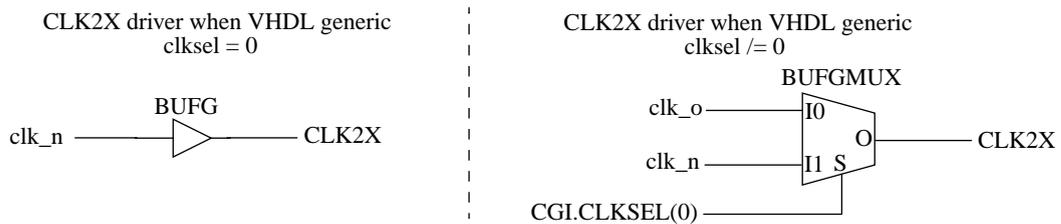
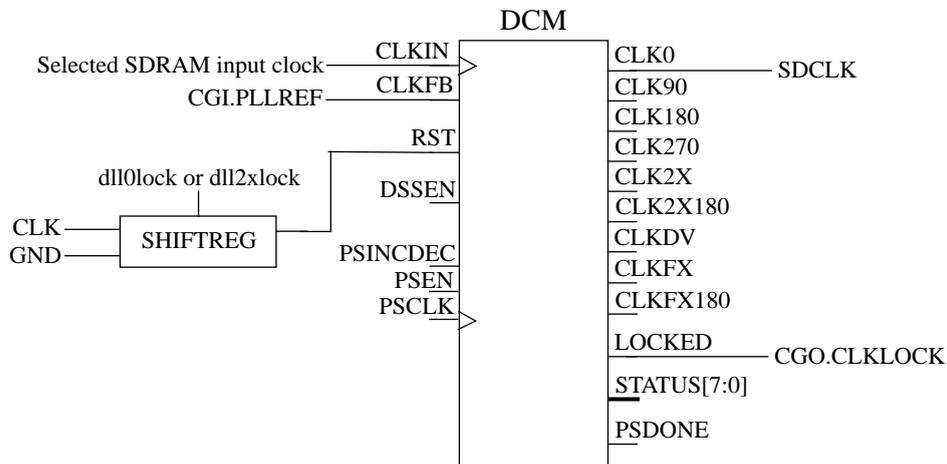

Figure 36. Spartan 3/e selection of CLK2X clock when VHDL generic *clk_{2xen}* is non-zero
Figure 39. Spartan 3/e generation of SDRAM clock
shift register connected to the CLK2X DCM’s RST input are set to ‘1’. When the dll0lock signal is asserted it will take four main clock cycles until the RST input is deasserted. Depending on the value of the *clk_{sel}* VHDL generic the core’s CLK2X output is either driven by a BUFG or a BUFGMUX. Figure 36 shows the two alternatives and how the CGI.CLKSEL(0) input is used to selected between the CLK0 and CLK2X output of the CLK2X DCM.
If the SDRAM clock is enabled, via the *sdramen* VHDL generic, and the clock generator is configured to use clock feedback the DCM shown in figure 39 is instantiated. This DCM has the same attributes as the CLK2X DCM. The input to the SDRAM DCM input clock is determined via the *clk2xen* VHDL generic. If the VHDL generic is set to 0 the input is the main CLK, if the generic is set to 1 the input is the *clk_p* out of the CLK2X DCM shown in figure 36. If the *clk2xen* VHDL generic is set to 2 the clock input to the SDRAM DCM depends on the *clkssel* VHDL generic. The input in this last case is the CLK2X output shown in figure 38.
If the SDRAM clock is disabled (*sdramen* VHDL generic set to 0) or the core has been configured not to use clock feedback (*noclockfb* VHDL generic set to 1) the driver of the core’s SDCLK output is determined by the value of the *clk2xen* VHDL generic. If the *clk2xen* VHDL generic is set to 2, the SDRAM clock output is the same as the CLK2X output shown in figure 36, in other words it also depends on the *clkssel* VHDL generic. If the *clk2xen* VHDL generic has any other value the SDCLK output is the same as the core’s CLK output.